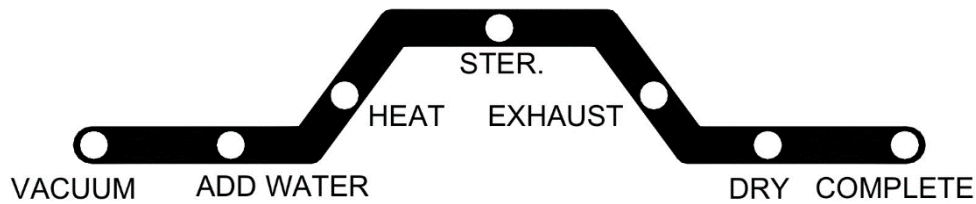

Figure 19
- D. Press the START Button , the setting temperature, duration, and dry time displayed two times on the three-digit display, and then the sterilizer will automatically run through the selected program. The current progress of the sterilization cycle is indicated by the illuminated LED on the Process Status Indicator. (Figure 19)